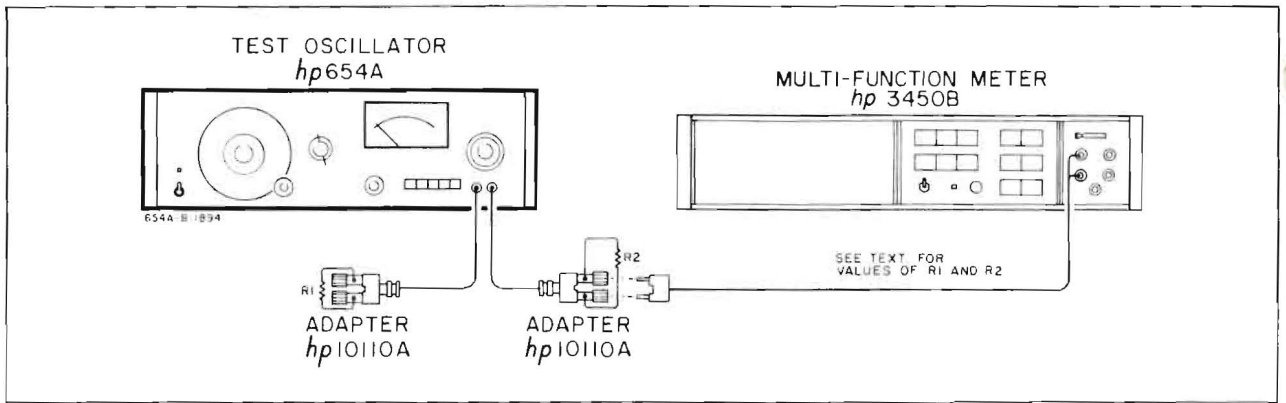

Figure 5-2. Amplitude Accuracy Checks - BAL
- a. Connect the equipment (shown in Figure 5-2), in the following manner:
- 1) Connect a 67.5 ohm resistor (use two 135 ohm resistors in parallel, R1 and R2) across two BNC to Binding Post Adapters as shown in Figure 5-2.